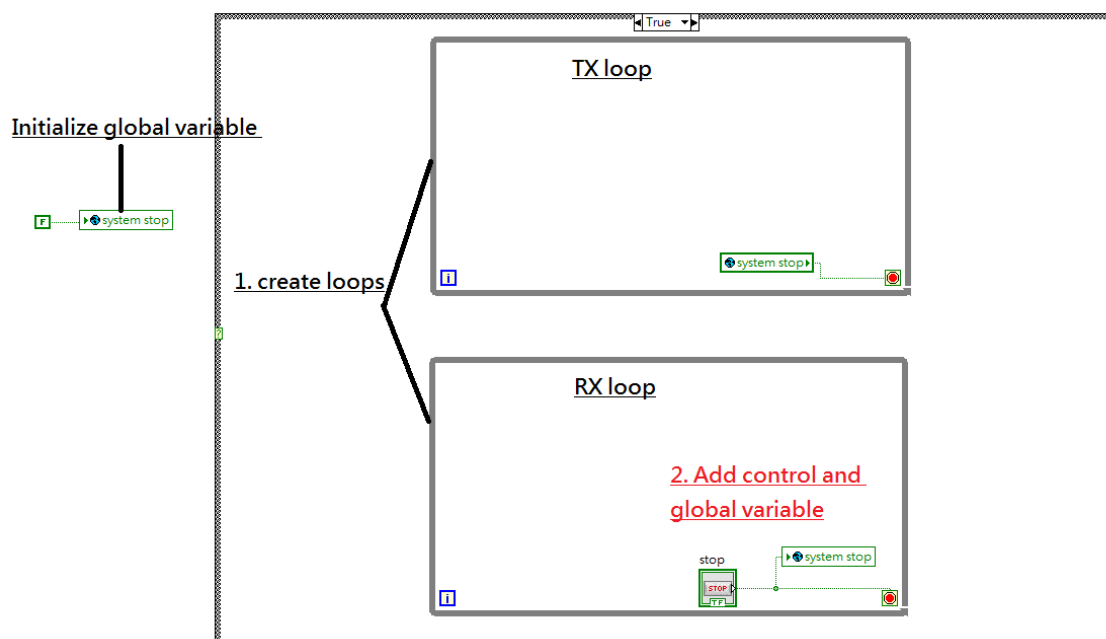

Figure 4: step 1,2 of example 1
2. **Global variable and event structure:** As you learn from basic LabVIEW programming, the stopping conditions for different loops are independent. However, to make our program clean and convenient to use, there are two approaches to stop multiple loops with single control: 1) global variable and 2) event structure. We use the first method in this example. The block diagram, as a result, is shown in Fig. 4. As for the second method, you can refer to the attached LabVIEW example `event_structure.vi`.